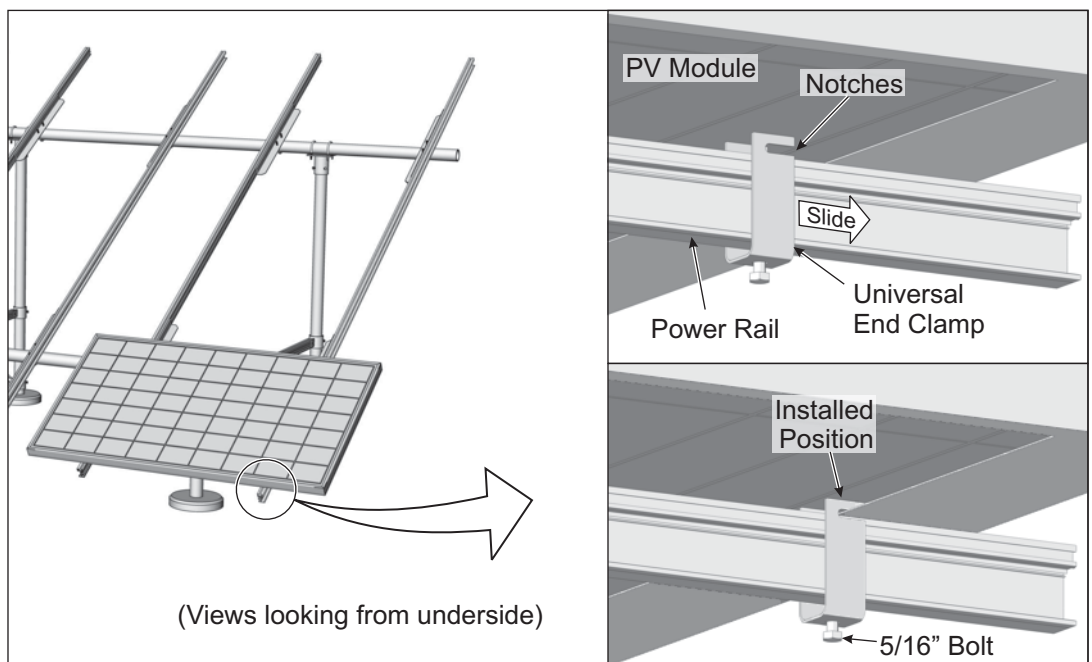

Figure 7-1: Installing PV Modules using Universal End Clamp
- B1. For use with "**Universal End Clamps**": Position Universal Clamp underneath module with notches facing the outside edge of the module, and rail centered between 'forks' of the clamp. Slide clamp notches towards module flange until the flange bottoms out in the notches. Tighten 5/16" bolt on bottom of universal end clamp. **Torque to 14-16 ft.-lbs.** Repeat for both end clamps. (See Figure 7-1)